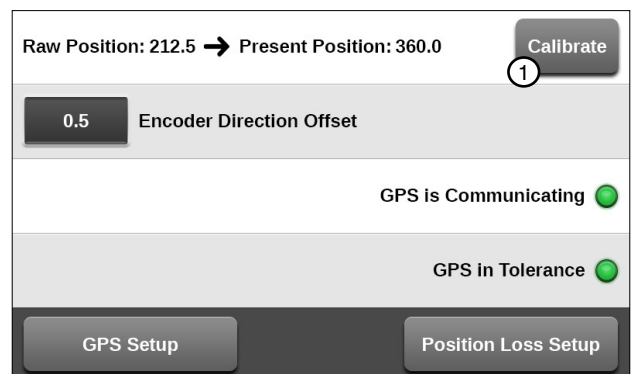

Figure 39-2 Position Screen
1. Push **Menu**, **Setup**, **Constants**, and **Position** to display the Position screen. Refer to Figure 39-2.